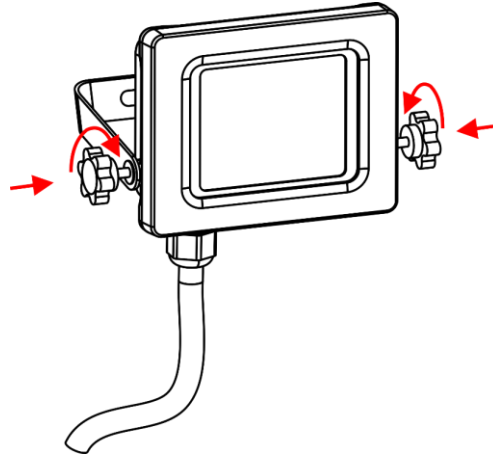

Fig. 11
- 07) Use the **color temperature switch (05)** to select one of the 3 color temperature options:
- 08) Insert the 2 **adjustment screws (01)** to connect the device to the **mounting bracket (03)**.
09) Turn the 2 **adjustment screws (01)** clockwise to tighten them (Fig. 11).